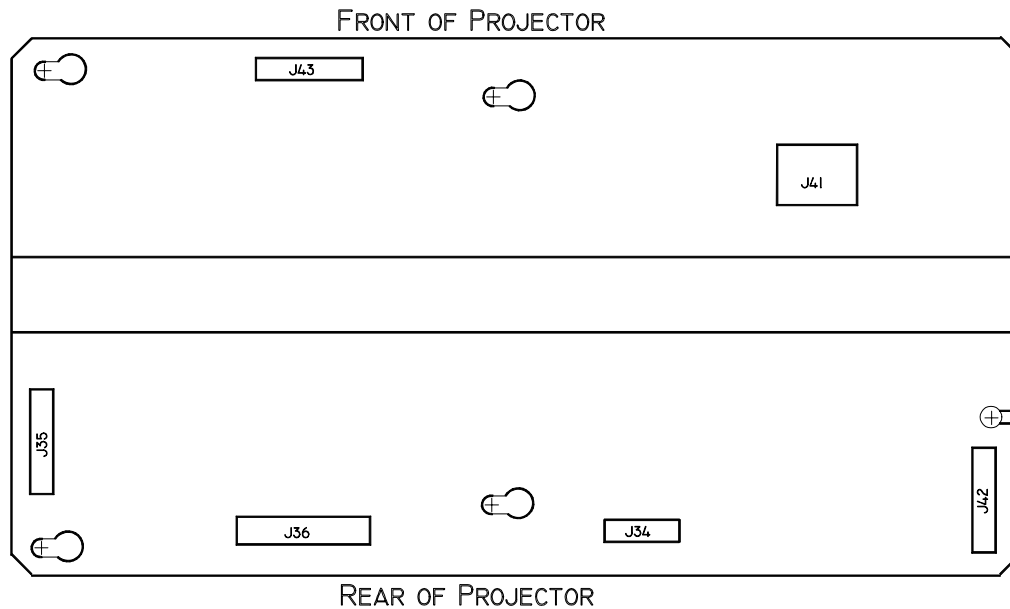

Figure 4-11. Horizontal/Vertical Deflection PCB.
2. Disconnect 6 connectors; J34, J35, J36, J41, J42, and J43. (*Figure 4-11*). Move the cables out of the way.